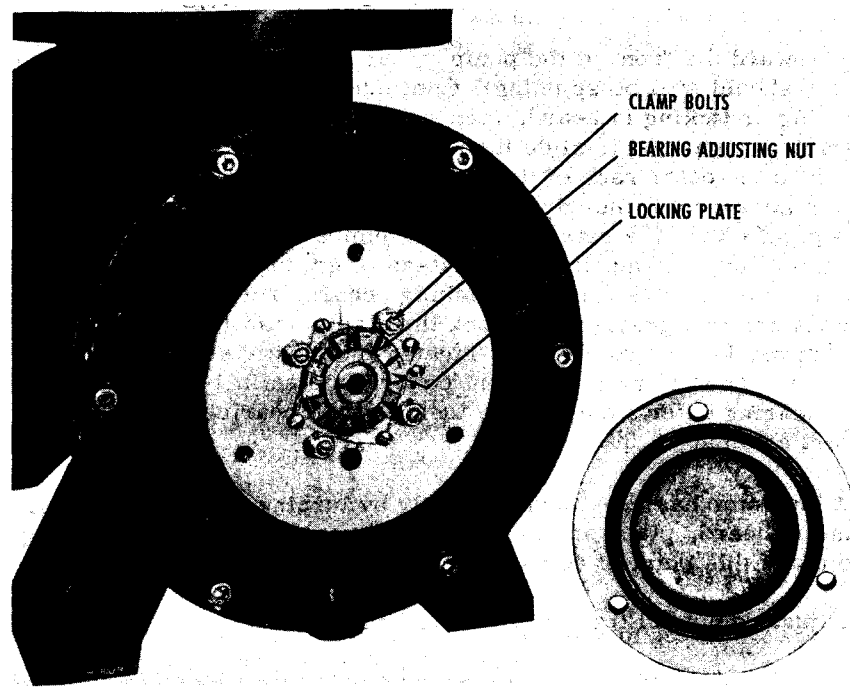

FIG. 15 ROTOR ALIGNMENT PARTS
- 16.4 Remove the locking plate screw (109) and the locking plate (111). These items are shown in Fig. 15.